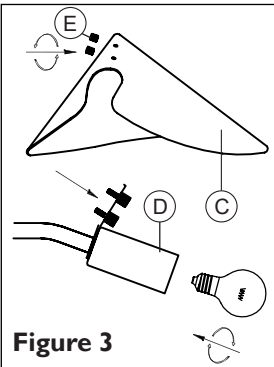

Figure 3
Refer to Figure 3. Place the shades (C) over the lampholders (D) and secure in place with the supplied finials (E).